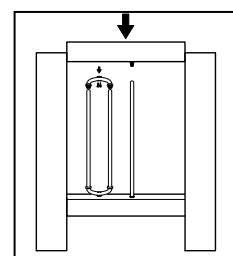

Figure 8
Step 8: Follow steps 2 and 3. Place the Duo Connector together with the Stair Adaptor and screw both to bottom rail, using the screws provided. Slide balusters over each connector. (Figure 8)